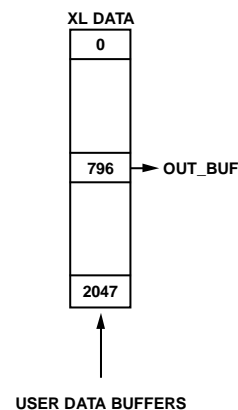

Figure 43. Register Activity, BUF\_PNTR = 0x031C (MFFT Mode or AFFT Mode)
Writing a number to the BUF\_PNTR register causes that sample number for user data buffer to load to the OUT\_BUF register. For example, using the following code sequence on DIN writes 0x031C to the BUF\_PNTR register: 0x8A1C and 0x8B03. This write causes the sample pointer to output (796) from the user data buffer to load to OUT\_BUF (see Figure 43).